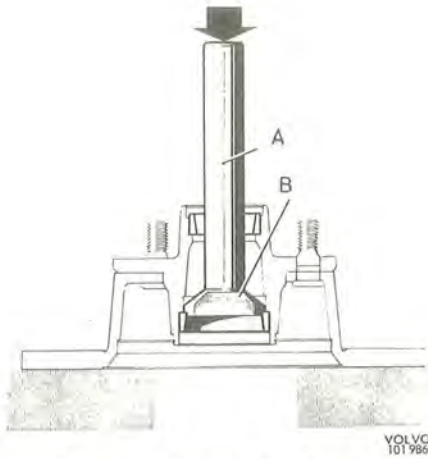
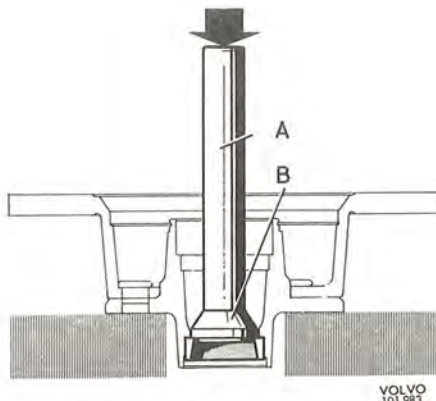

Fig. 7-16. Removing the inner bearing ring
Fig. 7-17. Removing the outer bearing ring
5. Remove the bearing rings. Use drift SVO 2724 (Fig. 7-16) for the inner bearing ring and drift SVO 2725 (Fig. 7-17) for the outer bearing ring together with standard handle SVO 1801.